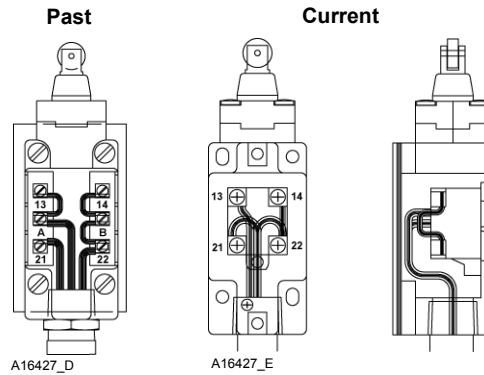

FIGURE 5-5
3. Turn adjusting screw out against limit switch roller until limit switch clicks open (LED off) and stop — should be at approximate dimension given in Figure 5-5.
See Figure 5-5 for limit switch electrical wiring diagram.